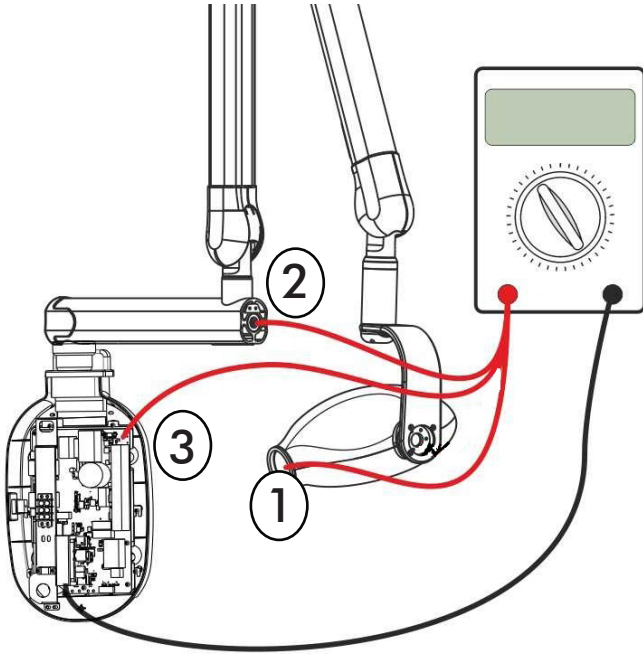

Figure 28: Check the continuity of ground connection.
- Between Ground point of power board and Base Unit Wall mounting plate as shown in Figure 28 .